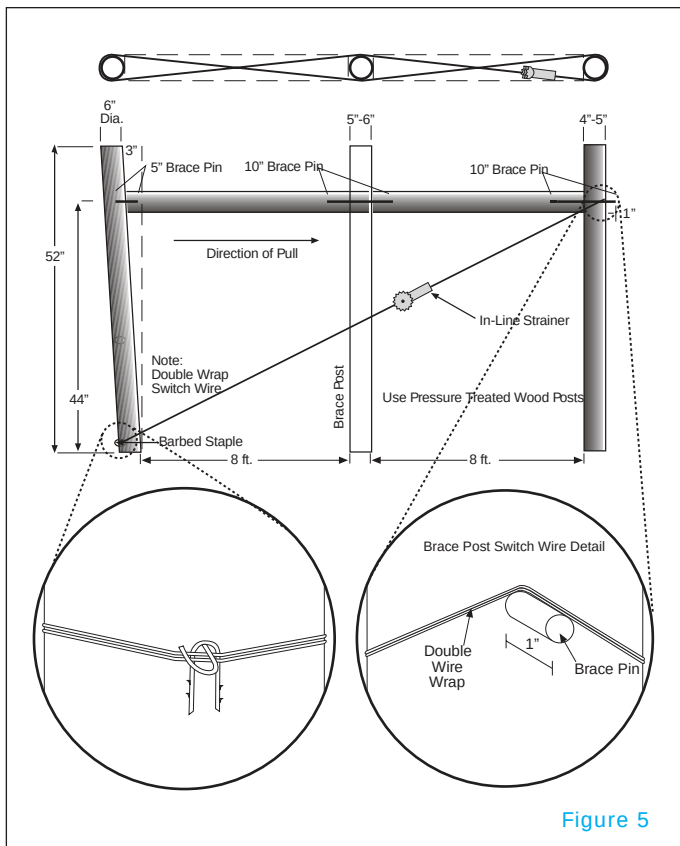
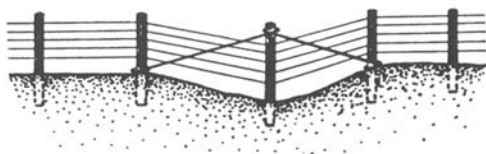
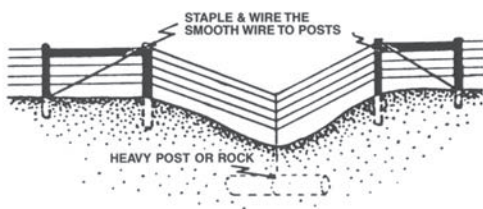

Figure 5
Figure 7
Figure 8
6. Wrap the brace wire two times in a figure 8 pattern around the posts making sure to go over the top of the protruding brace pin, and below the staple at the bottom of the corner/end post. (Figure 4)
How to Build a Double "H Brace (Figure 5)
4. Insert a five inch brace pin into the hole that was previously drilled into the corner/end post. You should have 2 to 3 inches of the pin left sticking out of the post. Install one side of the first cross member by sliding the hole in the end over the pin that was left protruding from the corner/end post. Next, slide the first cross member into place. Use a hammer to drive a 10 inch brace pin through the hole in the middle brace post, and into the hole in the cross member. Make sure to leave at least three inches of the brace pin sticking out of the middle brace post. Use this protruding brace pin to install the second cross member. Hammer the second 10 inch brace pin through the inner brace post, and into the second cross member. Remember to leave one inch of the brace pin protruding from the inner brace post. (Figure 5)
5. Drive a barbed staple at a downward angle approximately four inches from the ground in the corner/end post. Hang another staple on one leg of this staple to prevent the wire from digging into the post. (Figure 5)
6. Wrap the brace wire two times in a double figure 8 pattern around all three posts. (Figure 5)
If you must cross a depressed area, set a taller post at the bottom of the depression and brace it down as shown. (Figure 7) If water often runs through the depression, make the fence conform to the land with a buried dead weight. (Figure 8)